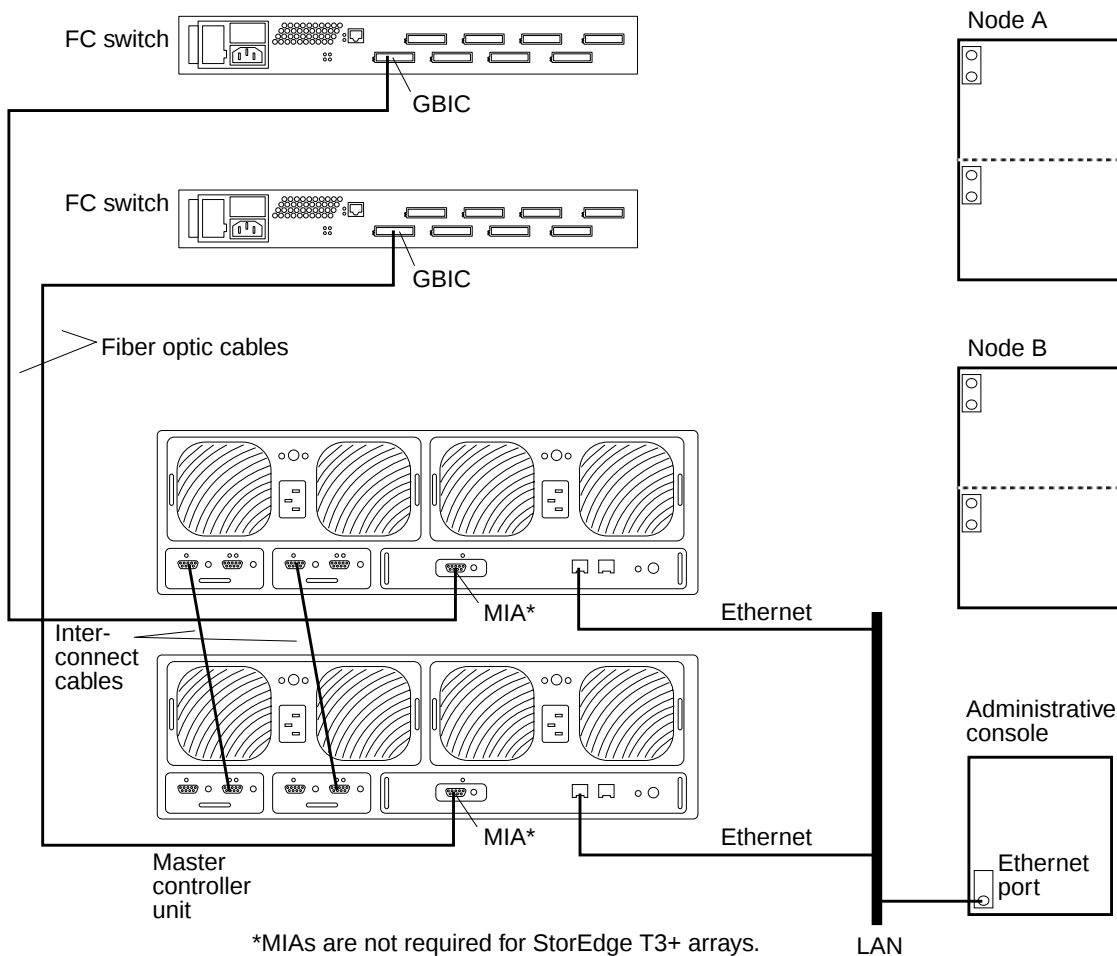

FIGURE 9-2 Adding Sun StorEdge T3/T3+ Arrays, Partner-Group Configuration
Note – Assign an IP address to the *master* controller unit only. The master controller unit is the array that has the interconnect cables attached to the right-hand connectors of its interconnect cards (see FIGURE 9-2).
2. **Install the Ethernet cable between the arrays and the local area network (LAN) (see FIGURE 9-2).**
3. **If not already installed, install interconnect cables between the two arrays of each partner group (see FIGURE 9-2).**
Install the media interface adapter (MIA) in the StorEdge T3 arrays you are adding, as shown in FIGURE 9-2.
13. **If necessary, install GBICs in the FC switches, as shown in FIGURE 9-2.**
14. **Install a fiber optic cable between each FC switch and both new arrays of the partner-group, as shown in FIGURE 9-2.**